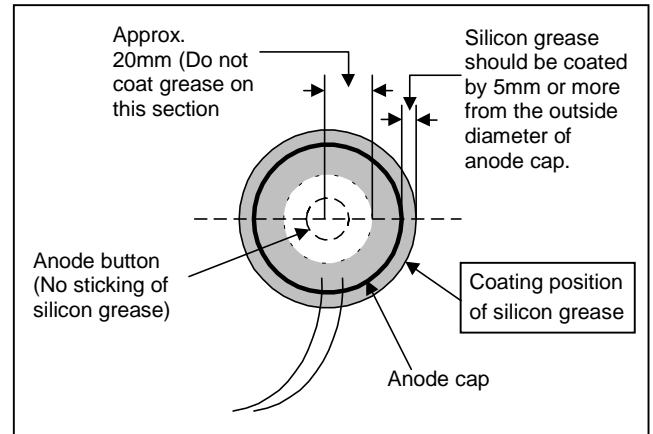

Fig. 9
- Coat silicon grease on the section around the anode button. At this time, take care so that any silicon greases do not stick to the anode button. (Fig.9)